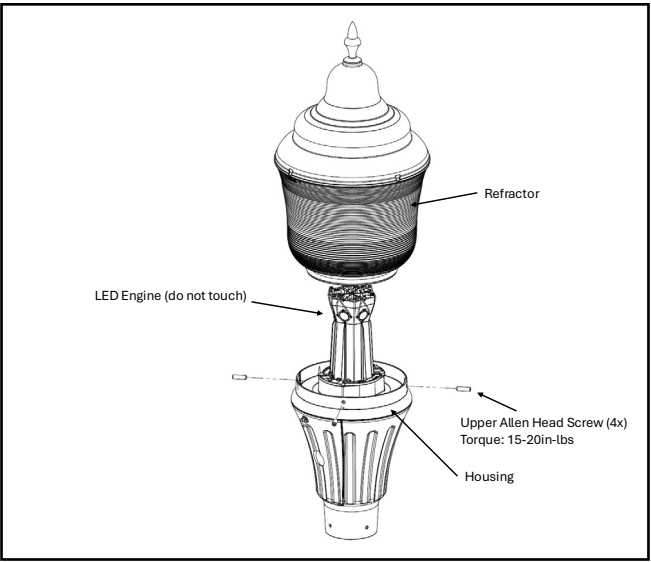

Figure 4.
8. To complete construction, place refractor over LED engine, and center on housing. Make sure to avoid contact between refractor and LED engine. (Figure 4)
10. Tighten four upper Allen screws to 15-20 in-lbs. (Figure 4)